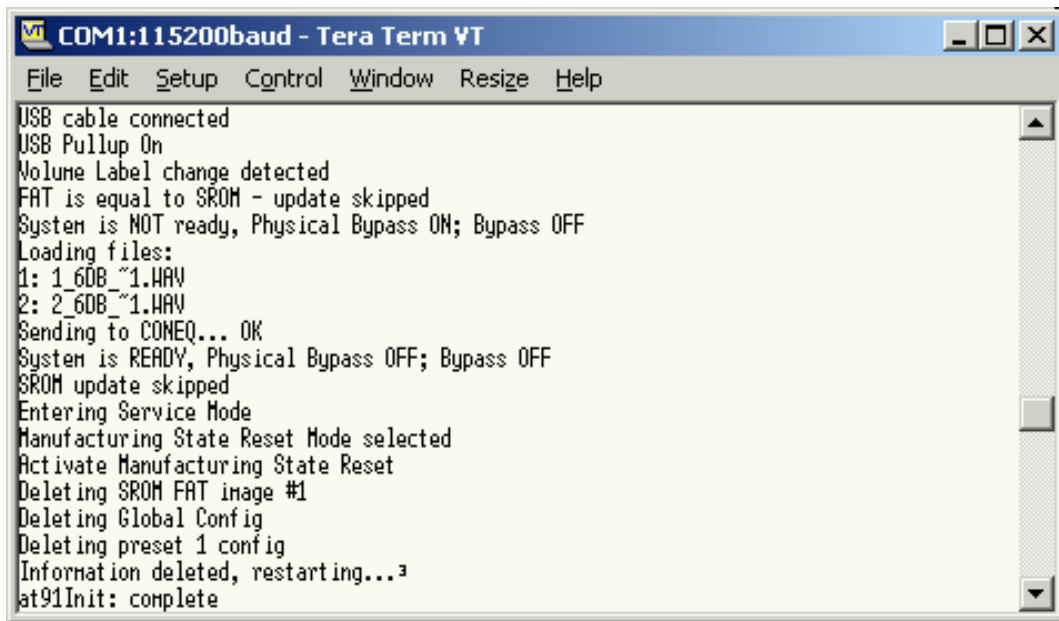

Figure 9: The terminal output while resetting the APEQ-2pro device to the factory settings.
- Press and keep for 3 seconds the **Bypass** button. This will activate the factory setting reset procedure (see figure 9). If the **Bypass** button is not pressed for 8 seconds, the device will return to the normal mode.